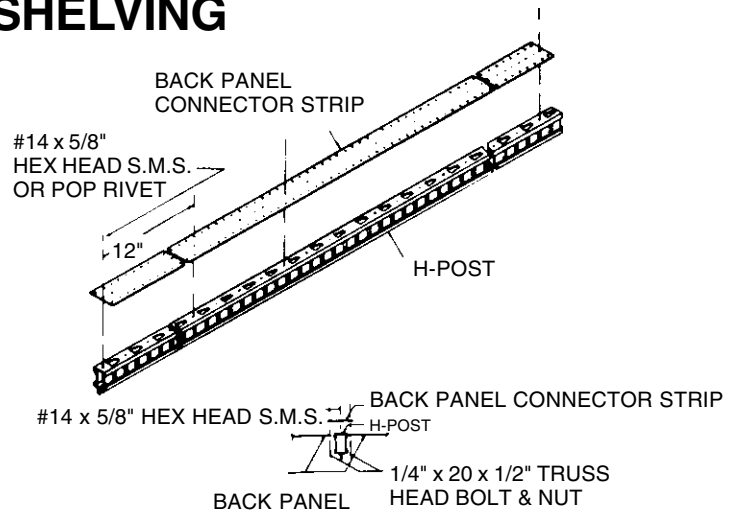

FIGURE 12
**Step 1D:** Use same procedure as individual units above except in Step 2C, use (1) connecting strip and (1) connecting strip. The strip is for continuous units and is bolted to all intermediate posts. See Fig. 12. Be sure to overlap strips with top strip under bottom strip when unit height is over 7'3".
**Step 2E:** Put combination clips on post on 12" centers as per Step 3 (if supplied), otherwise attach back panel connectors strips as shown in Fig. 12.
**NOTE:** In some requirements, back panel connector strips may be used rather than combination clips in back-to-back units. In those cases, see Figure 12 for attachment details. Consult with Penco to determine components supplied.